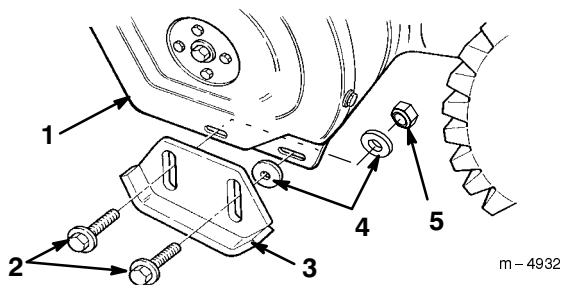

Figure 10
- Remove the two flange bolts and the two flat washers that secure the ends of the scraper to the side plates (Fig. 10).
5. Insert a washer **between each skid and the side plate** (Fig. 10). Do not tighten the bolts.
7. Insert a washer and a locknut **behind (on the inside of) the side plate** (Fig. 10). Do not tighten the bolts.